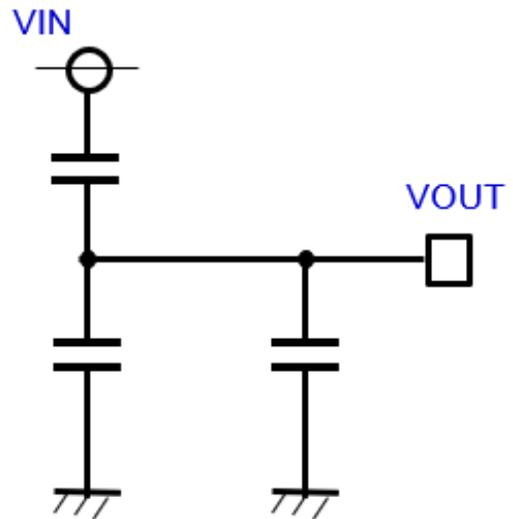

Figure 31. Charge pump
- For Figure 31, it would be high di/dt condition with a hard short because the PE25304 does not have a large inductor but has the low impedance of power FETs.